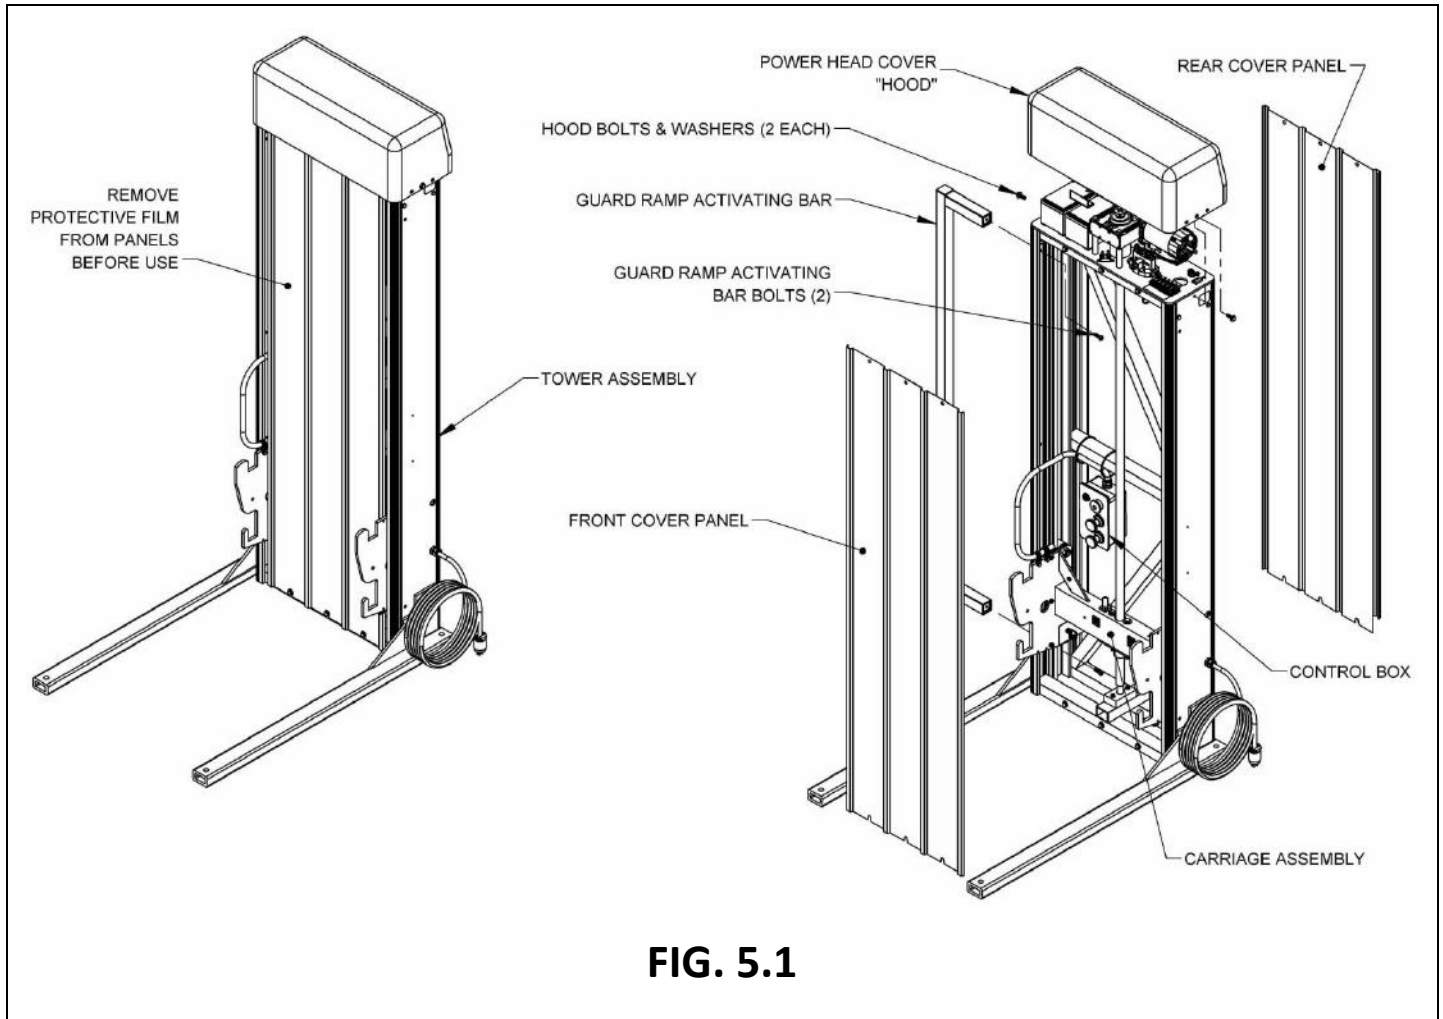

FIG. 5.1
5.2. Remove the power head cover ("hood") first by removing the two button head bolts on either end (FIG. 5.1).
5.4. Locate the guard ramp activating bar (FIG. 5.1).